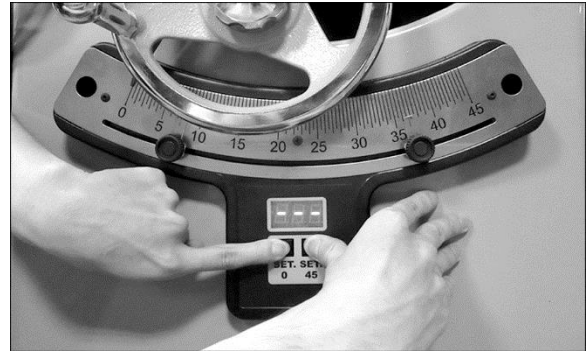

Figure 8-14
4. Press and hold both SET buttons until display shows “---” (Figure 8-14).
8. Press and hold both SET buttons until display shows “---” (Figure 8-14).